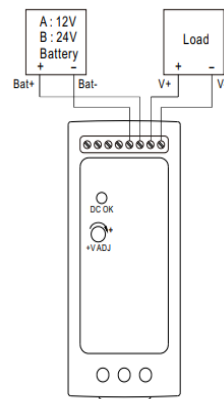

Fig 1.1 Suggested system connection
(1) Please refer to Fig.1.1 for suggested connection.